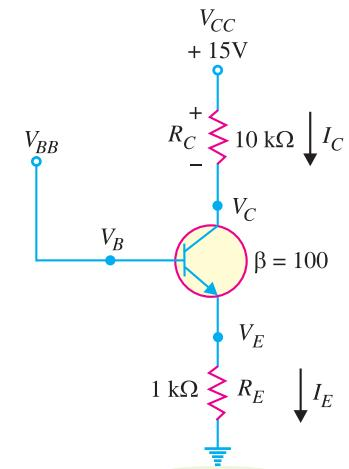

Fig. 8.59
**Example 8.37.** In the circuit shown in Fig. 8.59,  $V_{BB}$  is set equal to the following values :